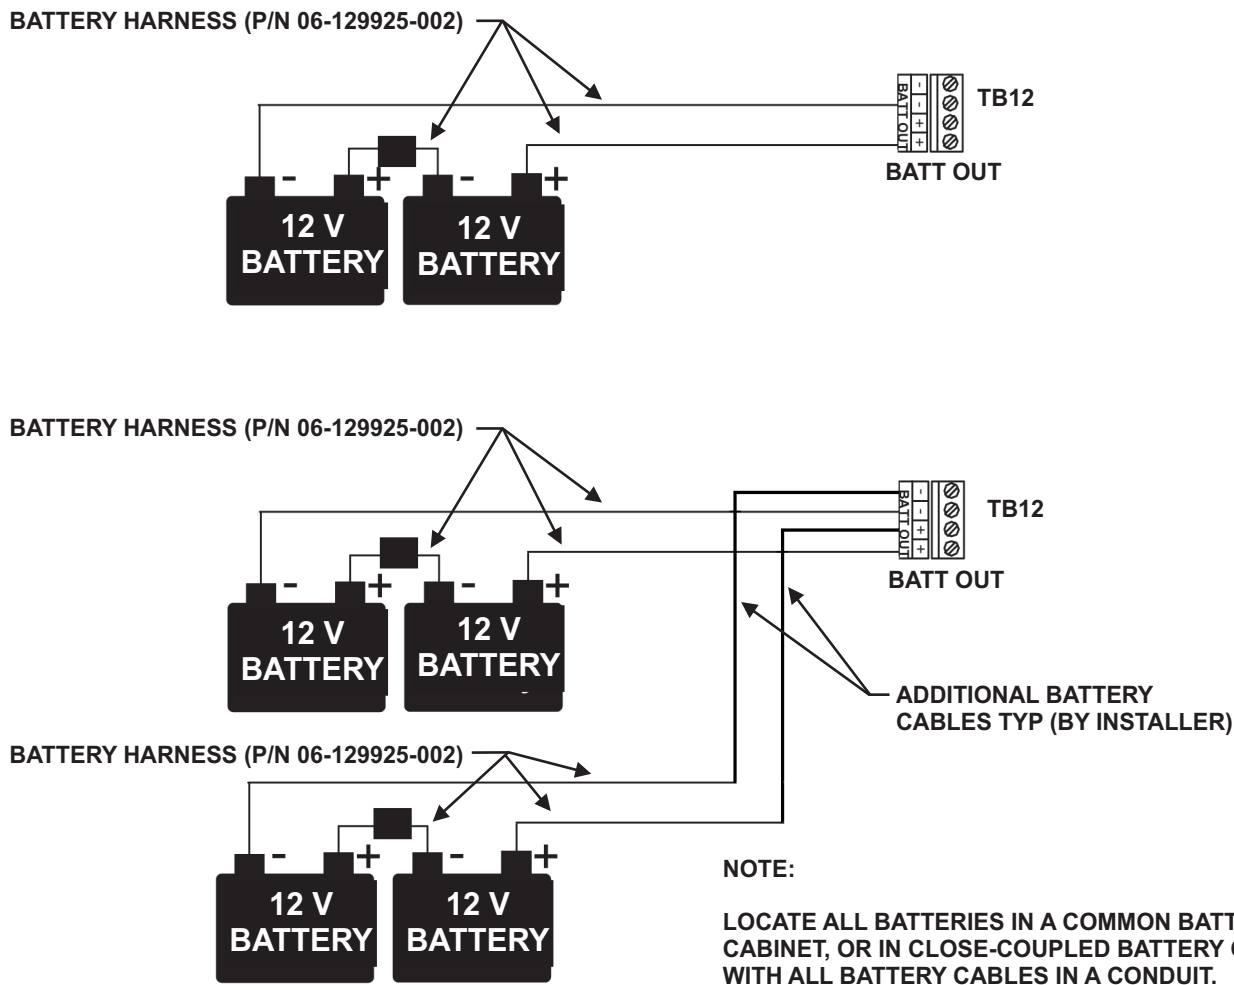

Figure 2-11. Backup Battery Connections
2. Ensure that the batteries are being placed into service within three (3) months of the ship date if stored at about 75°F (24°C) or within one (1) month if stored at 100°F (38°C). For longer storage time, they require charging per manufacturer’s specification to prevent permanent loss of capacity.
3. Observing polarity, connect the two (2) or four (4) 12-volt series-wired batteries of the required ampere hour (AH) capacity to TB12 (Batt Out) using battery cable (P/N 06-129925-002). Refer to Figure 2-11.